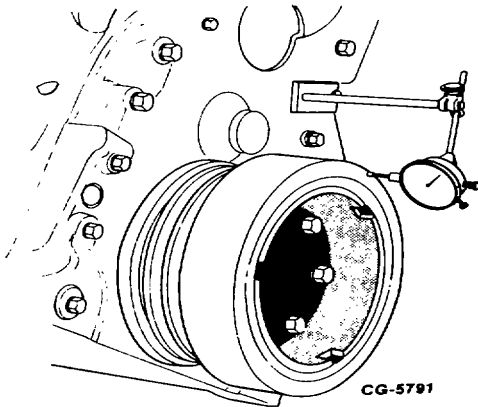

Figure 7. - Checking "Rubber" Damper for Wobble
- a. Attach a dial indicator to the vibration damper flange as shown in Fig. 7.